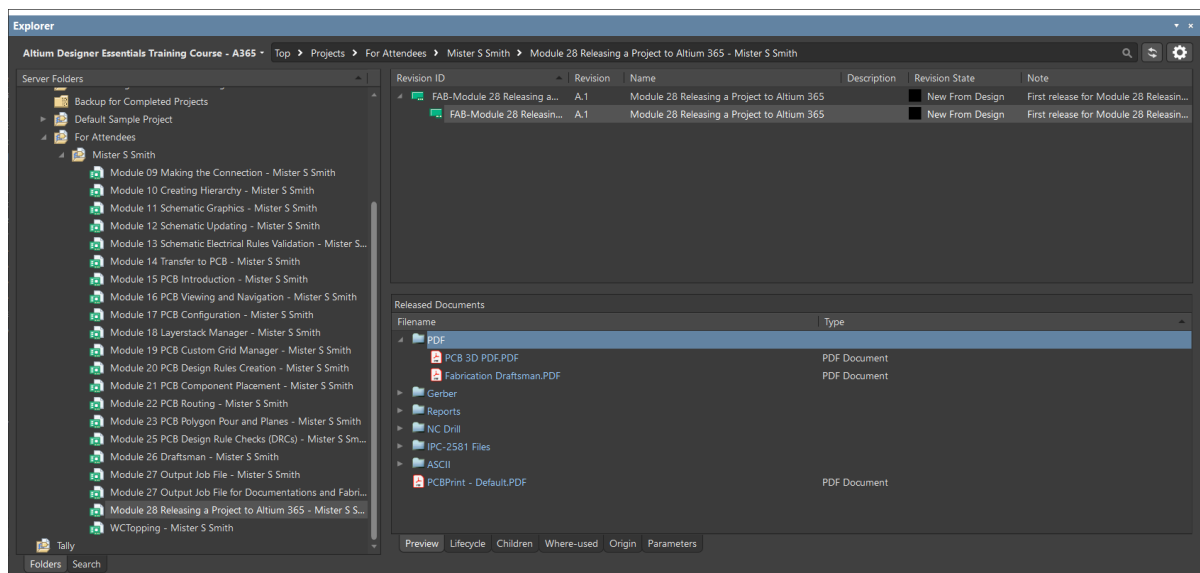

Figure 8. Explorer panel. First release of Fabrication Data.
29. The links from *Fabrication*, *Assembly for ...*, and *Project Page* allow you to open the *Explorer* Panel and to jump to the specific set of files created during the release process. Select the Link for Fabrication to see the outputs generated, as shown in Figure 8.